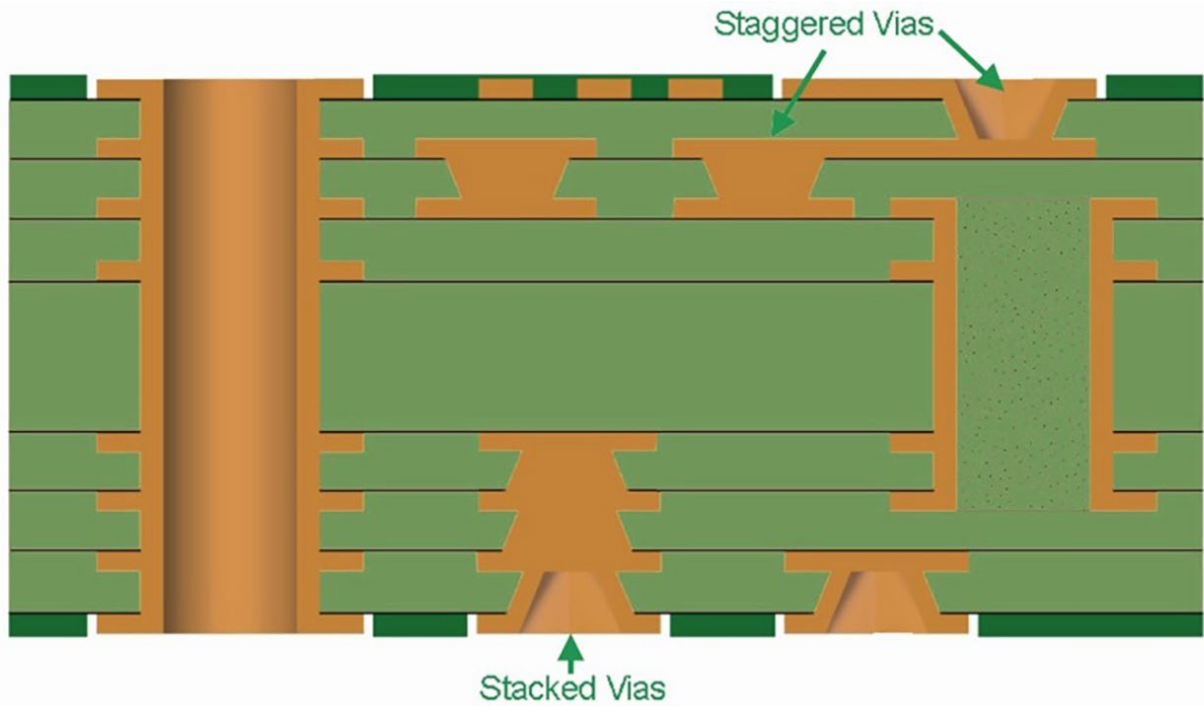

Figure 3: Staggered and stacked microvias.
- **Staggered:** Microvias that are electrically connected and offset to one another through various layers of the PCB (Figure 3)